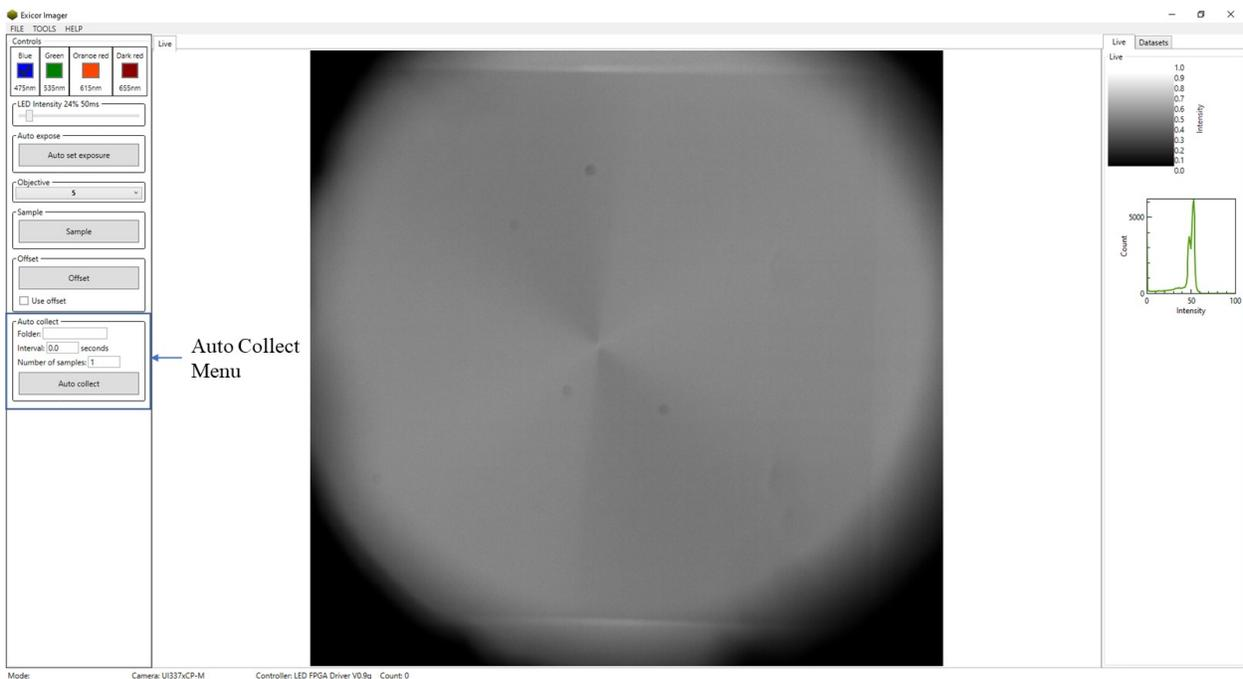

Fig. 16. Auto Collect Main Window
24. **Auto Collect:** The **Auto Collect** feature as shown in the bottom left corner of Fig. 16, allows us to collect a number of samples with some repeatable amount of time between them.